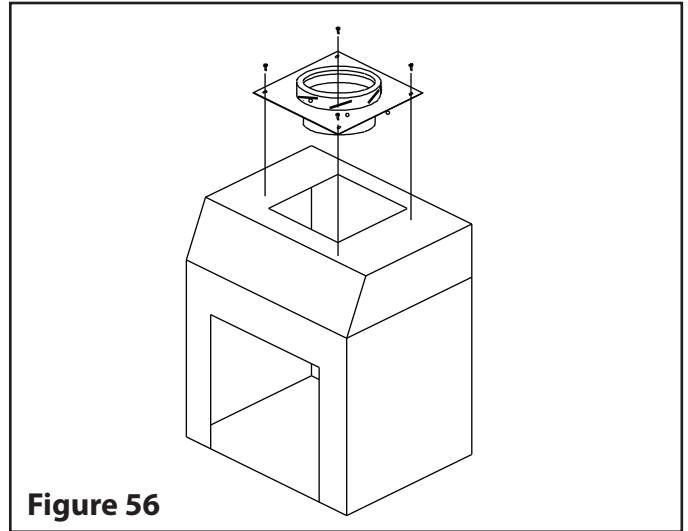

Figure 56
Once the appliance is installed, bolt the Anchor Plate (SP) to it (see **Figure 56**).